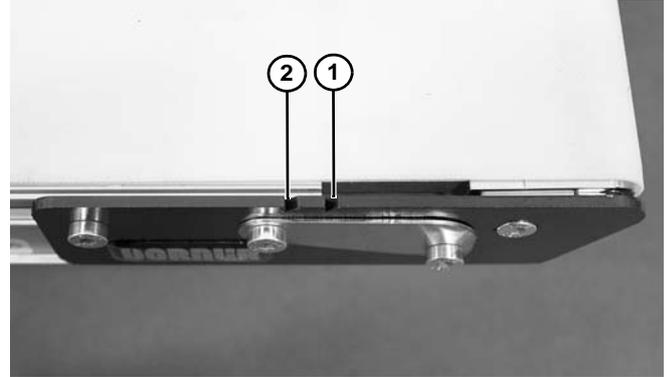

Figure 58
2. Adjust headplate assembly so end of conveyor frame aligns with or between the headplate tensioning marks (**Figure 58, item 1 & 2**). Replace belt if proper tensioning can not be obtained while aligning the end of the conveyor frame with or between the tensioning marks. See NOTE.